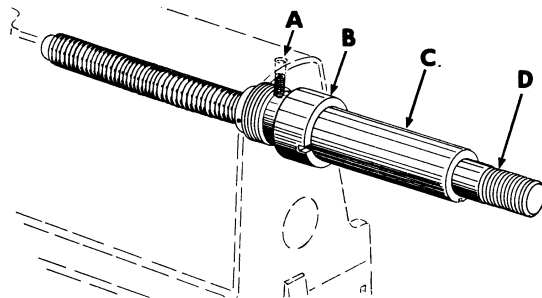

Figure 1
2. Enlarge oil hole (A, Fig. 1) with a No. 7 drill and thread with 1/4" - 20 N.C. tap.
3. Install retaining ring on ram (C) and slide ram screw (D) into ram.
4. Insert ram and screw assembly into bearing (B) and install bearing (B) into tailstock -- tighten securely.
5. Insert 1/4" - 20 x 3/8" socket set screw in hole (A) and tighten securely.